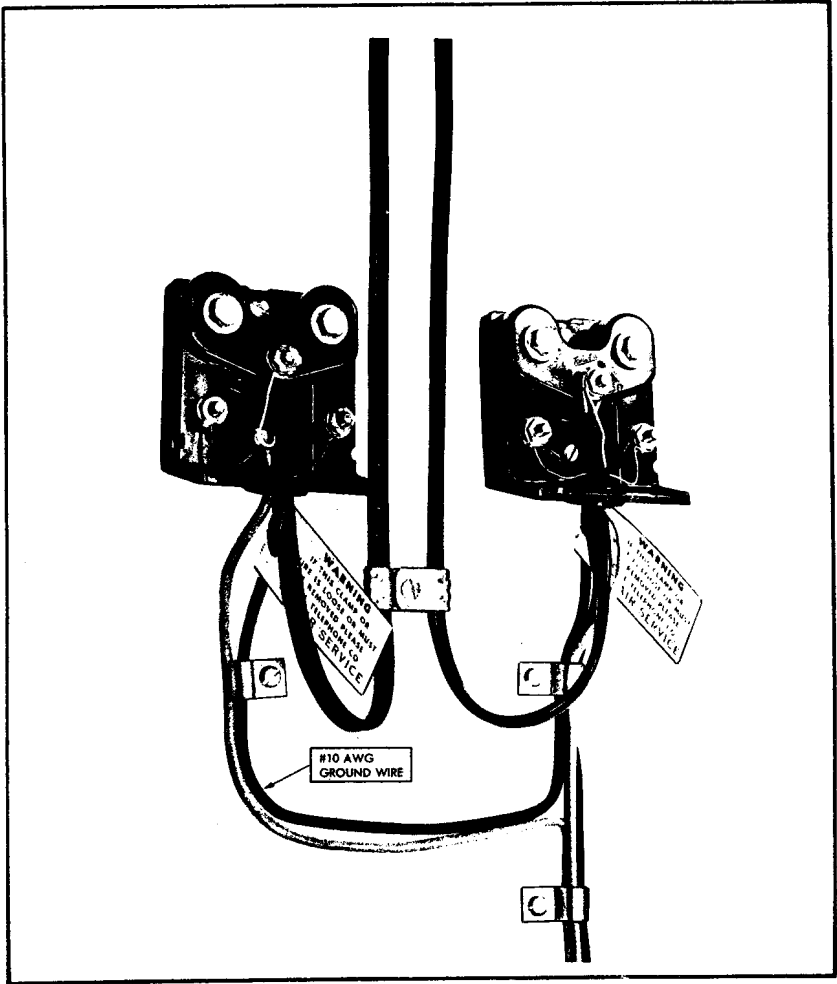

FIGURE 9. Typical Multiple Installation of Fuseless Protectors
c. Figure 9 shows a typical multiple installation of fuseless protectors.